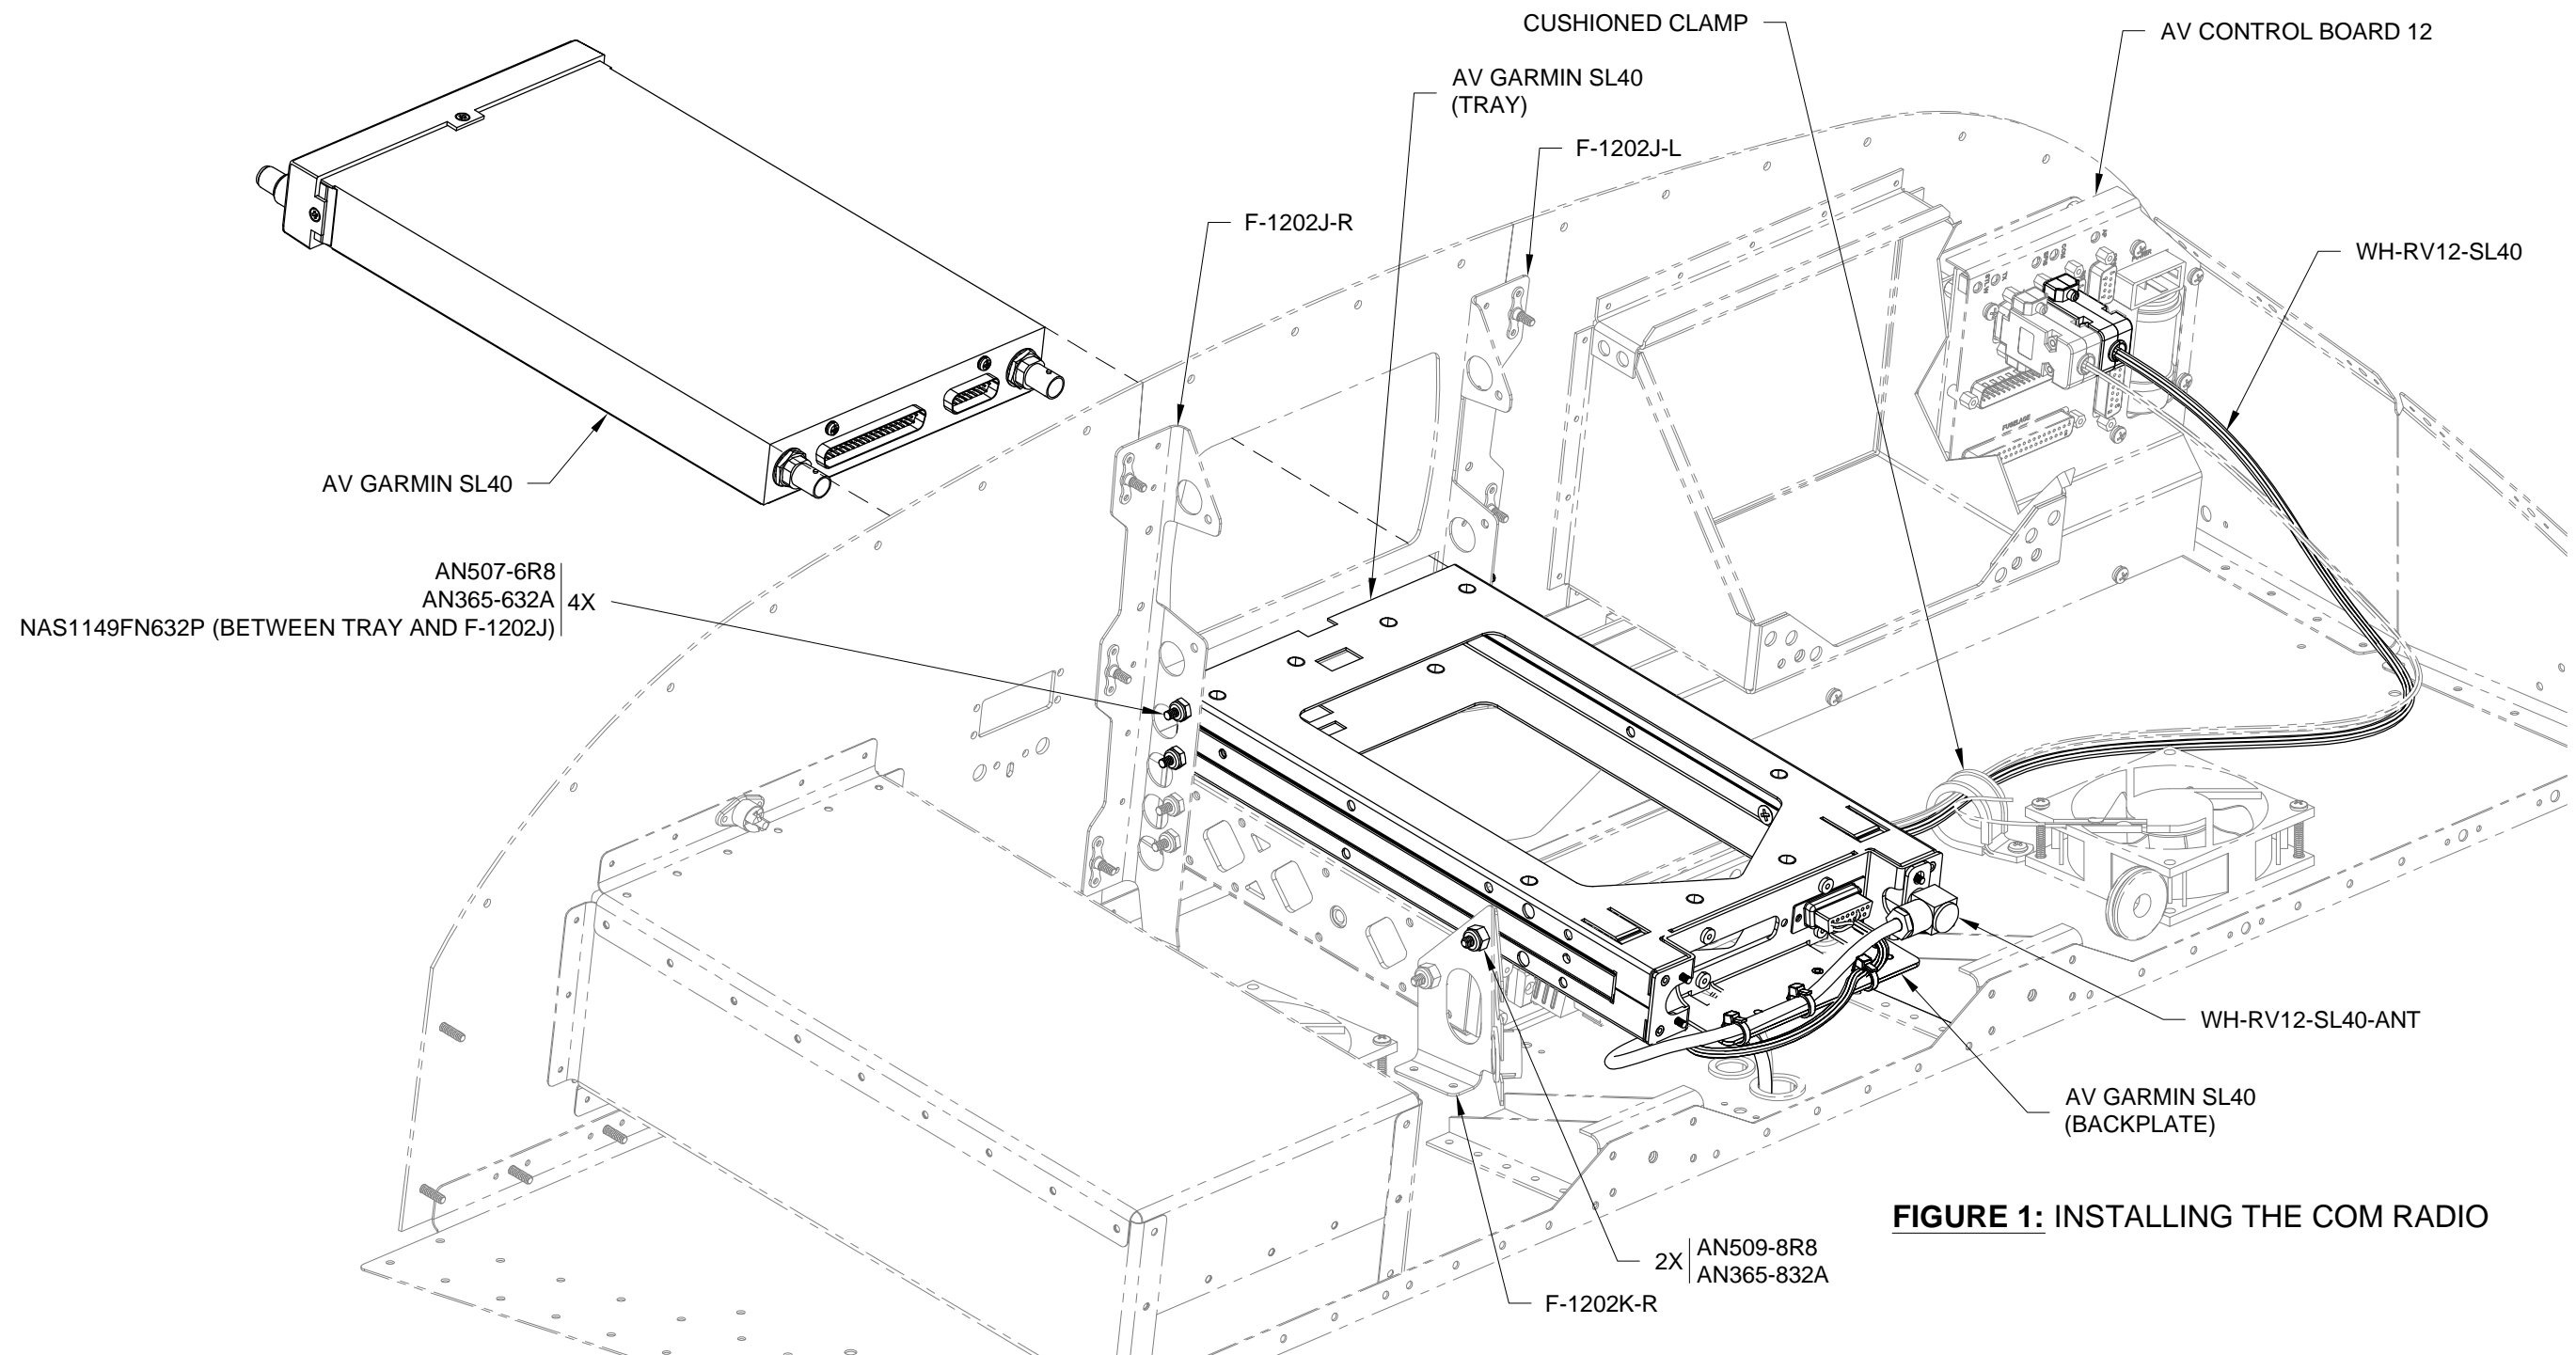

FIGURE 1: INSTALLING THE COM RADIO
Step 1: Attach the AV AV-17 Com Antenna to the F-1276 Bottom Skin using the hardware called out in Figure 1.